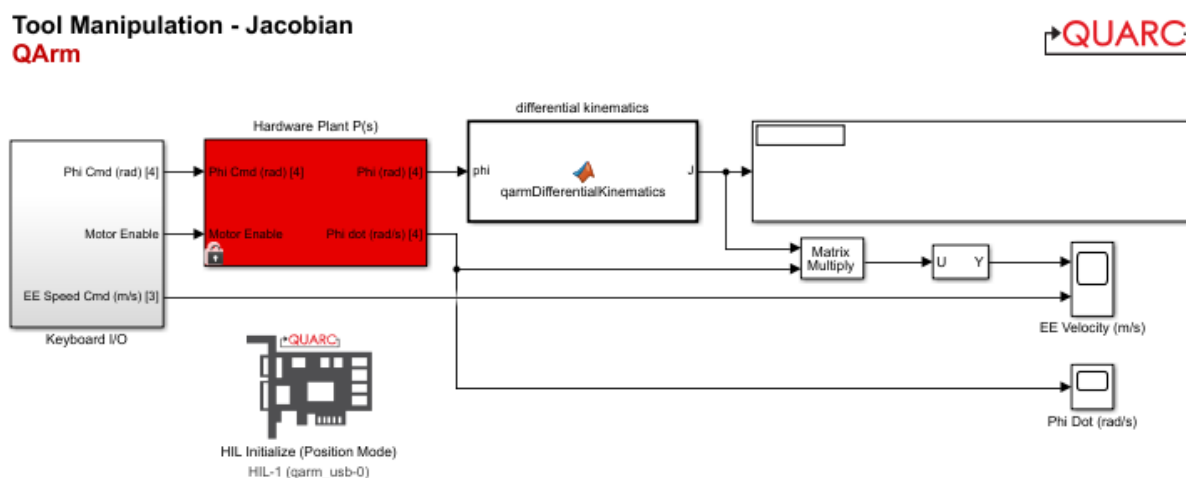

Figure 1 - Jacobian Simulink Model
- Analyze the cases one at a time, while checking the state machine diagram Figure 1 in the Tool Manipulation Application Guide. If start is true, you want to transition to State 2, and if not, you want to remain in state 1. Complete lines 22 and 24 to reflect this transition.